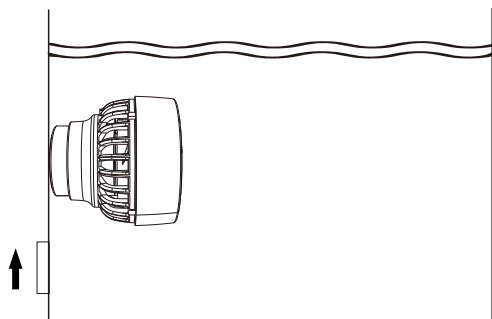

Figure 1
1. Pump installation: Remove the rear magnetic suction cup on the wave-making pump body's support. Install the pump body at the middle position of the inner wall of the aquarium. Securely attach it to the inner surface of the aquarium with the rubber suction cups, or use a rotatable rubber suction cup. Then, move the rear magnetic suction cup diagonally to adhere to the outer wall of the aquarium. Note: Due to the powerful magnetic force, be careful to pinch your hand. As shown in Figure 1.